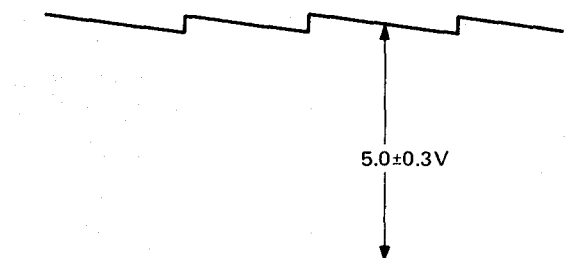

Figure 73.
3. Adjust R771 (capstan lock) so that voltage of TP-713 becomes $5.0 \pm 0.3V$ as shown in Fig. 73.